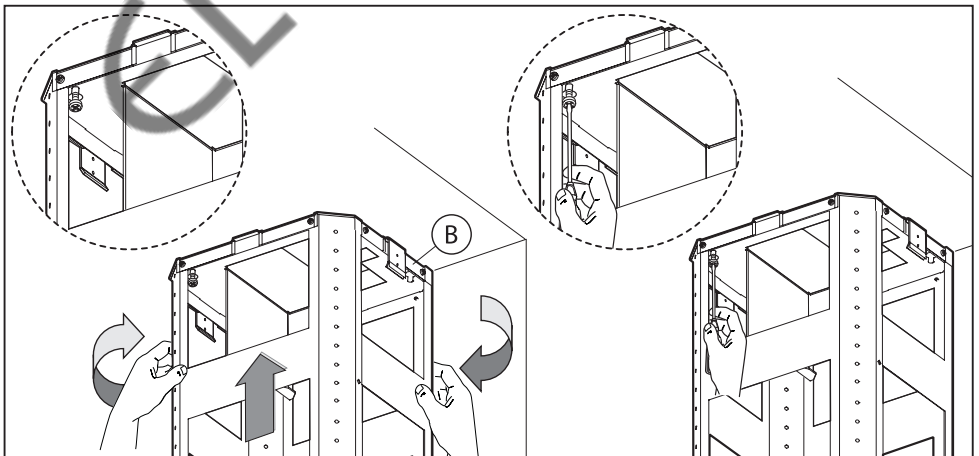

Fig.4
- Take the upper part of the structure **B** (Fig.4) and insert the 3 slots onto the 3 screws that are not completely tightened. Rotate slightly to fit (Fig.4). Drive in the fourth screw **X** and tighten the remaining 3 to allow definitive blocking of the upper part of structure **B**.